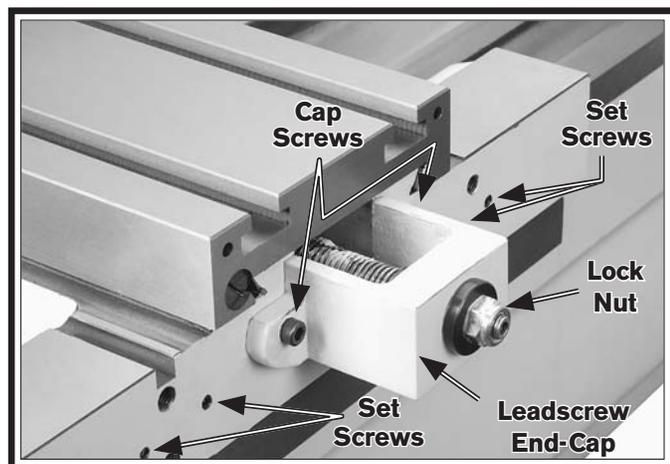

Figure 4. Lead screw end-cap.
3. Using a 5mm hex wrench, remove the two leadscrew end-cap cap screws shown in **Figure 4**.
4. Using a 3mm hex wrench, remove the four set screws (**Figure 4**) from the saddle.
5. Using a 17mm wrench, remove the lock nut (**Figure 4**) from the end of the lead screw.
6. Slide the end-cap off the lead screw. Make sure that the inner and outer race shown in **Figure 4** do not stick to the end-cap.